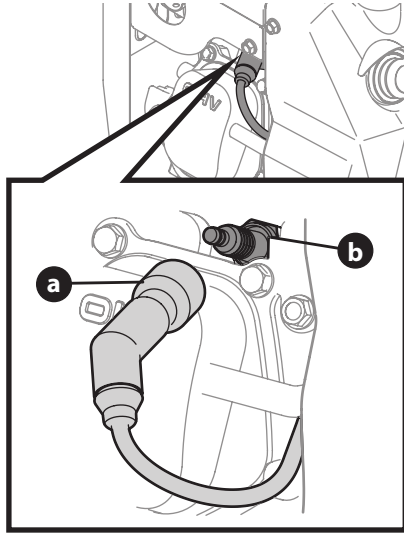

Figure 8
1. Carefully disconnect the spark plug wire (a) and keep it away from the spark plug (b). Refer to Figure 8 for spark plug location.
1. Remove the spark plug boot (Figure 8).